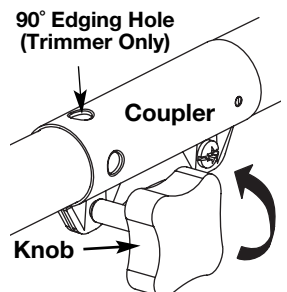
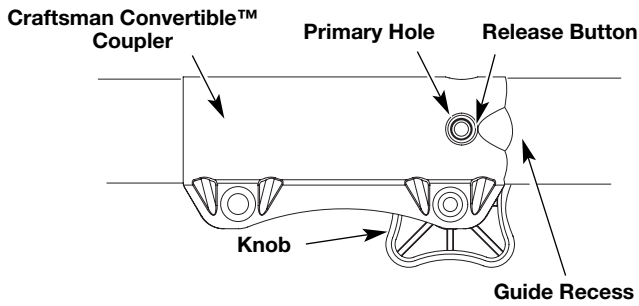
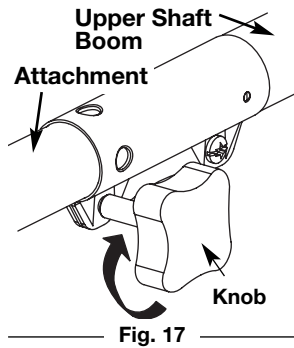

Fig. 15
Fig. 16
Fig. 17
2. Turn the knob counterclockwise to loosen coupler (Fig. 15).
3. Push in the release button (Fig. 16) and twist the shaft 90° until the release button snaps into the 90° hole (Fig. 15).
4. Turn the knob clockwise to lock the coupler (Fig. 17).
2. Turn the knob counterclockwise to loosen the coupler (Fig. 15).
3. While firmly holding the attachment, push it straight into the coupler until the release button (Fig. 16) snaps into the primary hole (Fig. 16). The primary hole is on the opposite side of the coupler from the knob (Fig. 16). Align the release button with the Guide Recess (Fig. 16) to help installation.
**CAUTION:** Before operating this unit, be sure that the release button is fully snapped into the primary hole (Fig. 16), and that the knob (Fig. 17) is securely tightened.
3. Press and hold the release button (Fig. 16).
4. While firmly holding the upper shaft boom (Fig. 17), pull the attachment out of the coupler.